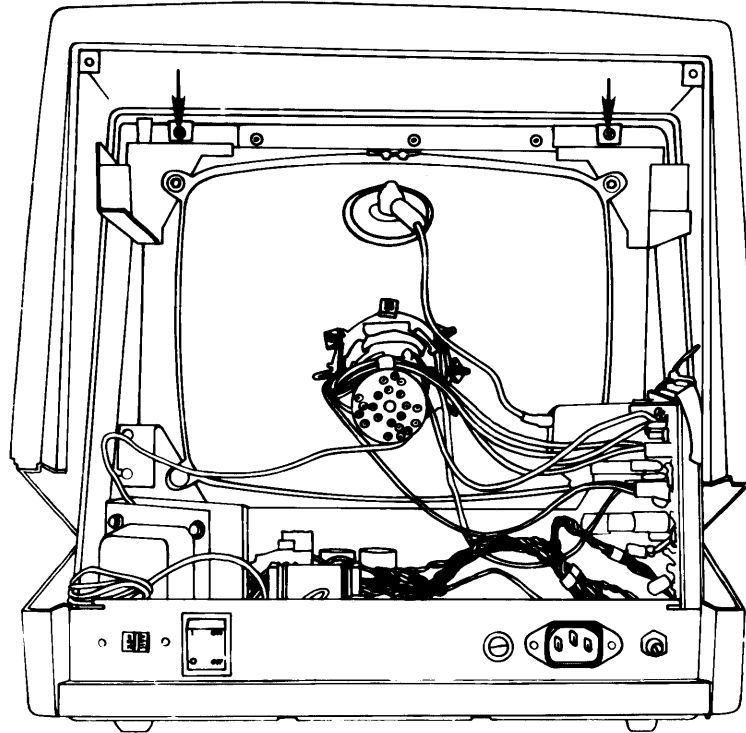

Figure 5-2: MDT 60 Cabinet Hood - Removing the Inside Screws
4. If the cabinet hood is mounted to the inside bracket, you need to remove the two screws from the inside top left and top right (see Figure 5-2). Use your 1/4" hex nut driver.